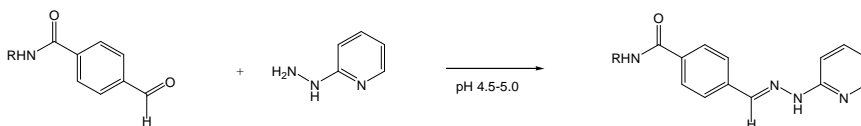

Figure 2: Colorimetric reaction used to quantify number of 4FB linkers on a biomolecule
The HyNic-4FB conjugation couple is chromophoric- the conjugate bond absorbs at 354 nm and has a molar extinction coefficient of 29000. This allows (1) real time spectrophotometric monitoring of a conjugate reaction, (2) ability to 'visualize' the conjugate during chromatographic purification using a UV or photodiode array detector and (3) quantification of conjugation. Furthermore, the level of incorporation of 4FB groups can be quantified colorimetrically as reaction with 2-Hydrazinopyridine (Solulink catalog# # S-2002) yields a chromophoric product that absorbs at A350 with a molar extinction coefficient of 18000 (Figure 2). Links to procedures and calculators to guide users through this process are given in the procedures below.
- The molar substitution ratio (MSR) can be determined using a colorimetric reaction outlined in Figure 2. Addition of 2-hydrazinopyridine to a 4FB-modified biomolecules yields a compound that absorbs at 350 nm. Refer to the 4FB-Protein Colorimetric MSR Calculator or the 4FB-Oligonucleotide Colorimetric MSR Calculator as well as the protocol that is appropriate for your lab equipment: 4FB Colorimetric MSR Assay Protein Nanodrop Method Protocol, 4FB Colorimetric MSR Assay Protein Spectrophotometer Method Protocol, 4FB Colorimetric MSR Assay Oligonucleotide Nanodrop Method Protocol, or 4FB Colorimetric MSR Assay Oligonucleotide Spectrophotometer Method Protocol.